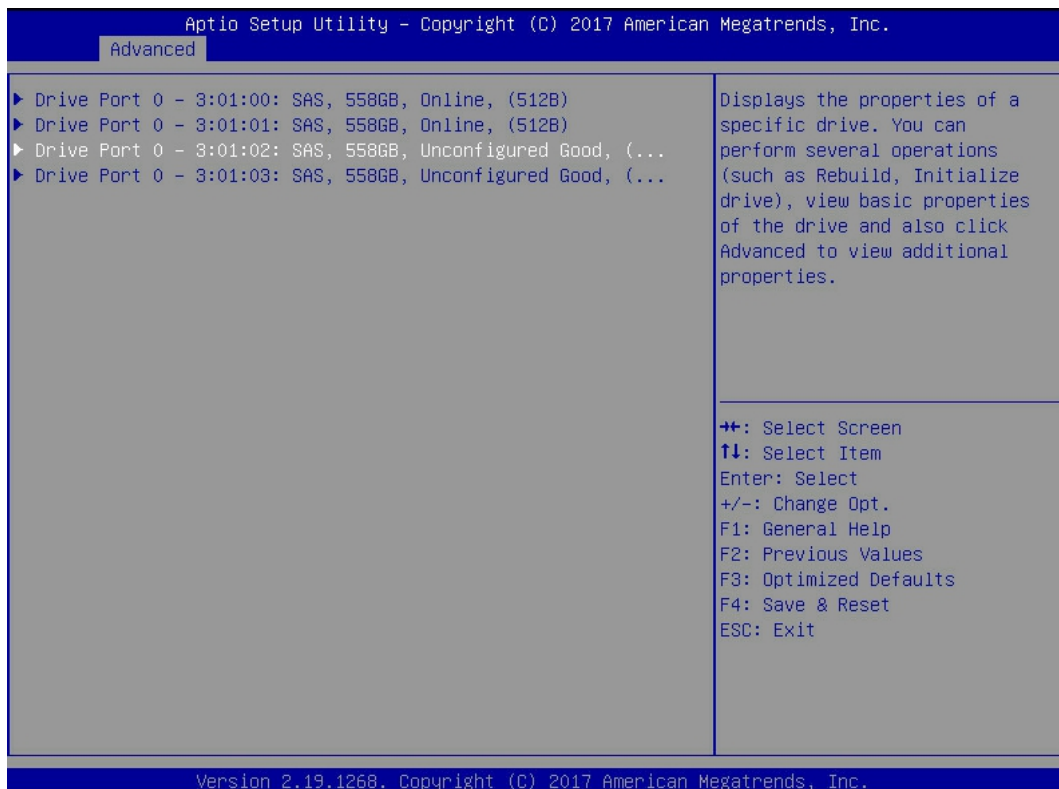

Figure 6-72
b) Enter the interface shown in figure 6-72, select the disk to be initialized, and press enter.
✧ Figure 6-72 disk management interface